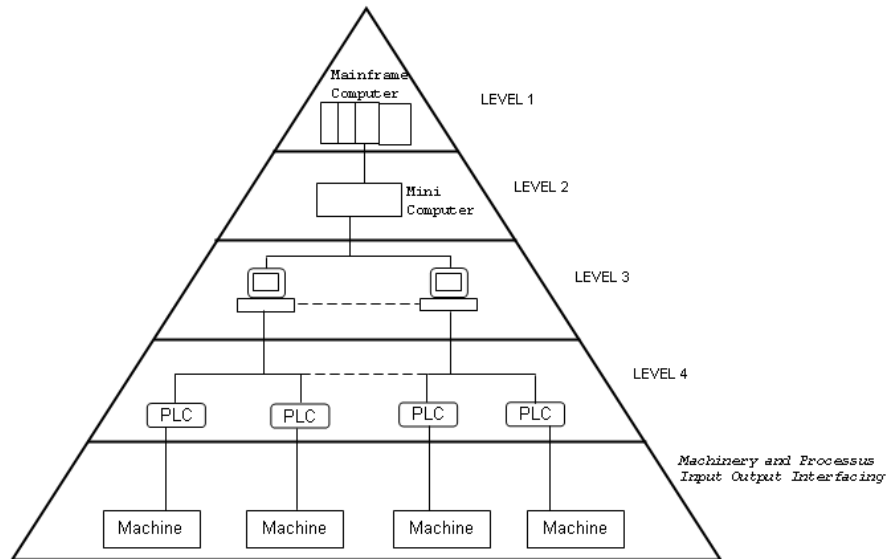

Figure 7: Hierarchy in an automated factory
- (a) A hierarchy in an automated factory comprise of level 1, 2, 3, and 4 as shown in **Figure 7**.